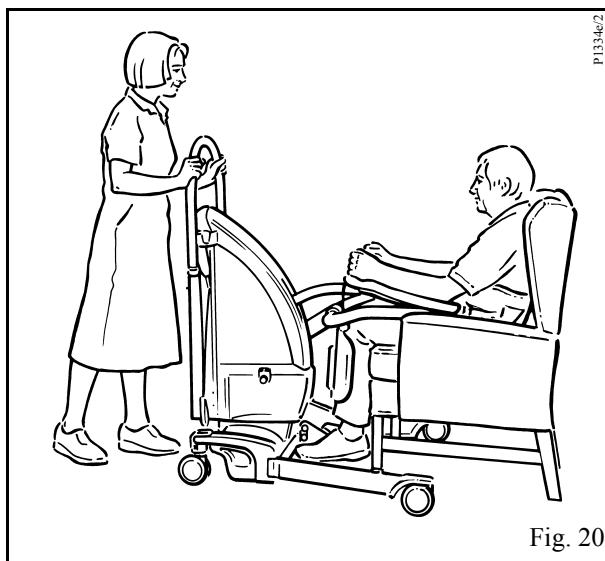

Fig. 20
- **Note:** The patient should be supported by the sling, but not pulled forward too much. (See Fig. 20)